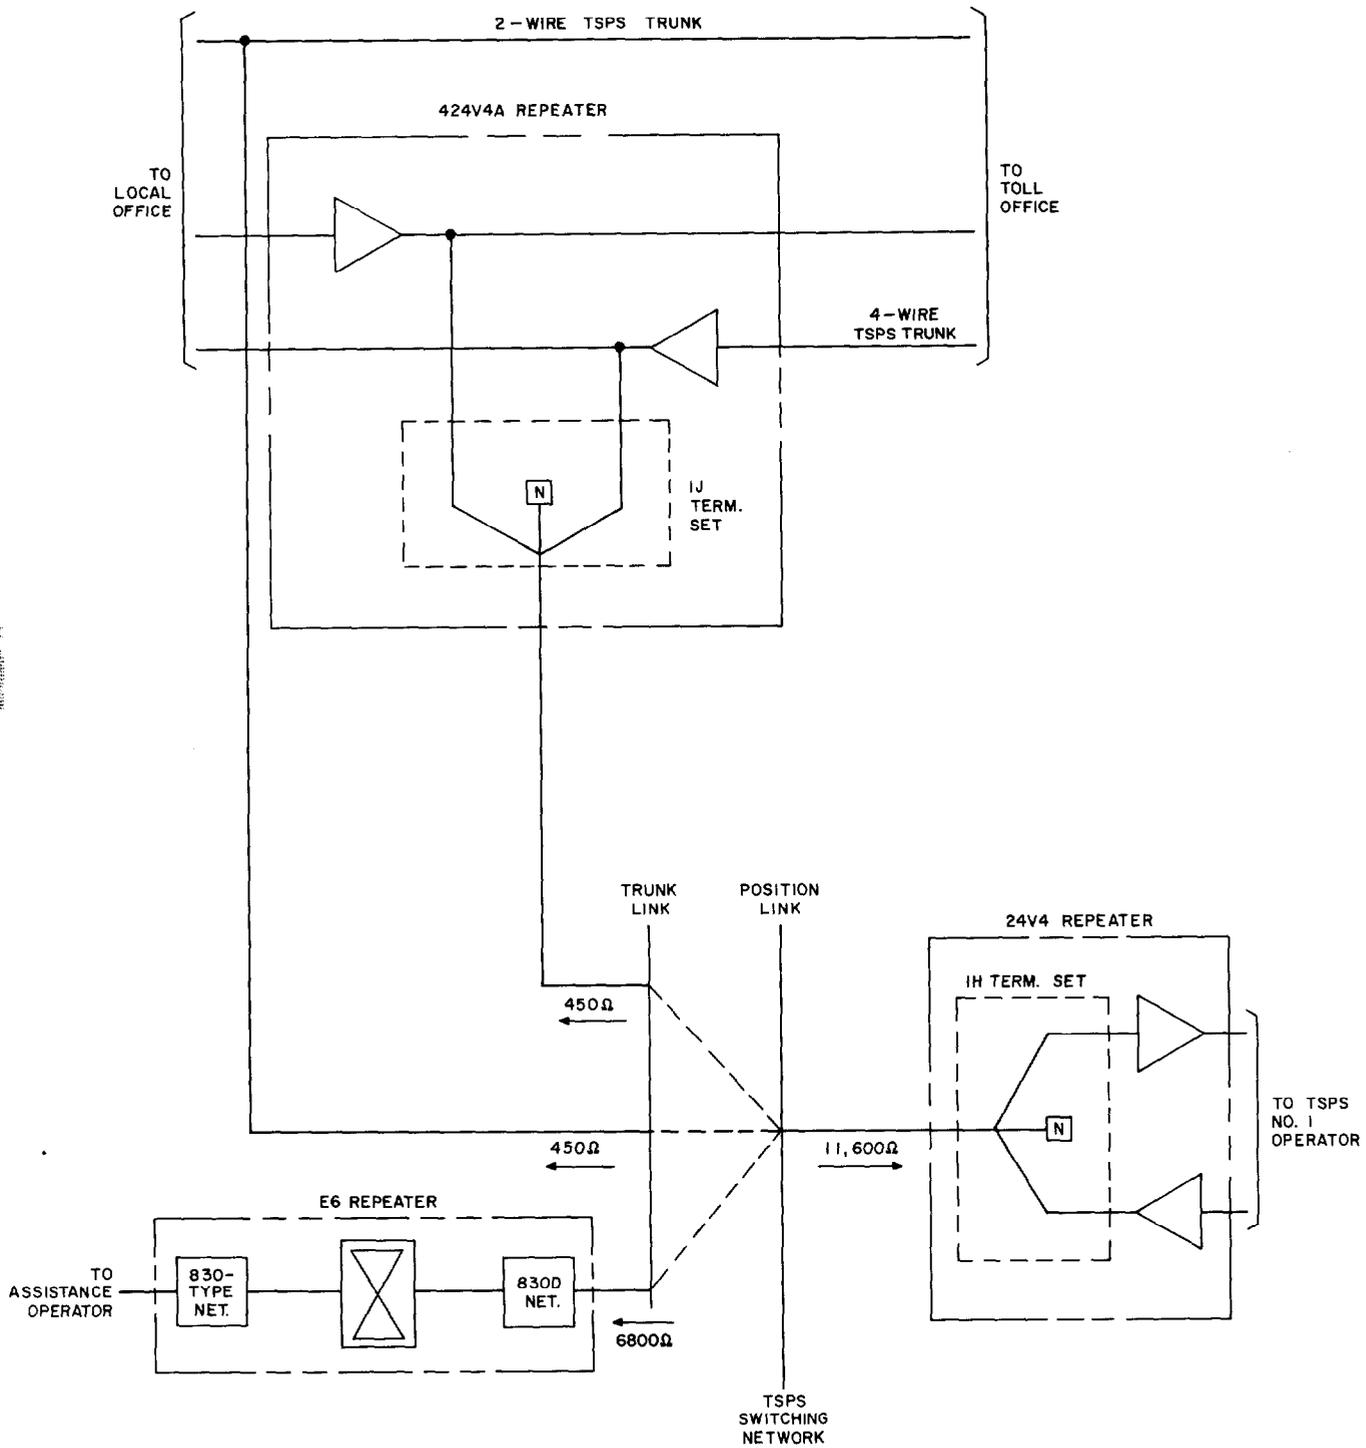

Fig. 1—TSPS No. 1 System—Block Diagram of Transmission Circuit
1.01 This section describes the 1H terminating set for use in the 24V4 telephone repeater as part of the Traffic Service Position System (TSPS) No. 1 operator cut-through circuit (see Fig. 1). The 1H terminating set has a high-impedance 2-wire port which may connect to (1) 2-wire 900-ohm trunks, (2) 450-ohm 2-wire port of the 1J terminating set bridged on 4-wire 600-ohm trunks, or (3) high-impedance 2-wire assistance operator trunks. The 227-type amplifiers in the associated 24V4 repeater make up for the hybrid losses and provide gain to the 4-wire 600-ohm circuit connecting to the distant TSPS operator.